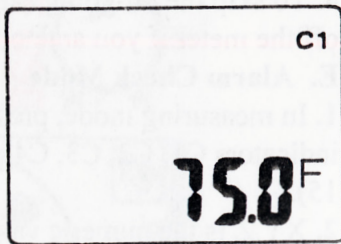

FIG 17
3. Press NX/td key to change the digital flash. Press MN/MX and change the number until it display 75.0°F as Fig. 17.